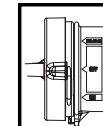

Figure 12
5. Before rinsing, move indicator on cap to "OFF" position to shut off soap (Figure 12).